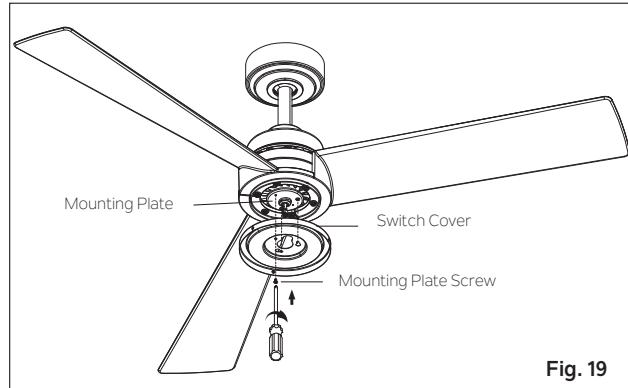

Fig. 19
Step 2. Place the key hole slots in the switch cover over the 2 mounting plate screws that were loosened on the mounting plate. Rotate the switch cover (clockwise) until it locks in place against the mounting plate screws at the narrow ends of the key hole slots. Align the remaining hole in the switch cover with the remaining hole in the mounting plate. Install the mounting plate screw that was removed from the mounting plate into the aligned holes. Tighten all 3 mounting plate screws to secure the switch cover in place. **(Fig.19)**